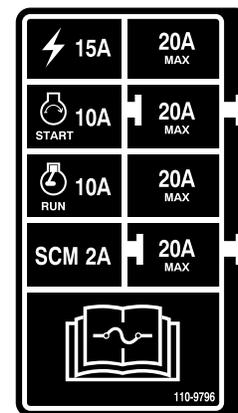

Figure 75
**Important:** If you need to replace a fuse, always use the same type and amperage-rated fuse as the one you are replacing, otherwise you could damage the electrical system. Refer to the decal next to the fuses for a diagram of each fuse and its amperage (Figure 75).